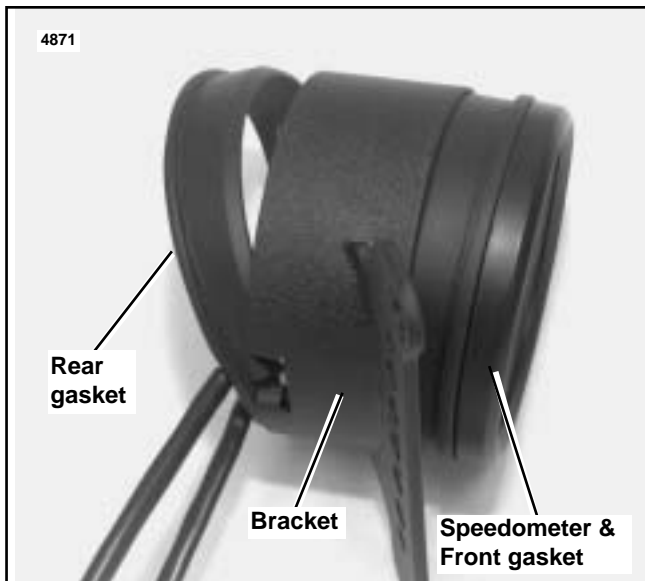

Figure 3. Speedometer and Gaskets in Single Instrument bracket
- 5b. See Figure 3. Note position of rear speedometer gasket and remove it. Push on rear of speedometer while simultaneously pulling speedometer and front gasket from bracket. *Do not remove front gasket from the speedometer.*
5b. See Figure 3. Note position of rear speedometer gasket and remove it. Push on rear of speedometer while simultaneously pulling speedometer and front gasket from bracket. Do not remove front gasket from the speedometer.